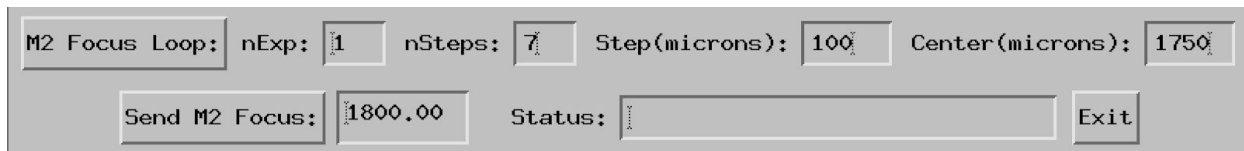

Figure 19. Cut-out section of the slitviewg GUI showing the focus loop controls.
- 12) **M2 Focus Loop:** Executes a focus loop with an imaged star on the slit plane by piston of the secondary mirror (M2) using the telescope active optics system (AOS) (Figure 19). Pressing this button starts the loop with a reference image, after which Mark Star is prompted to locate the target and proceed with the parameters: